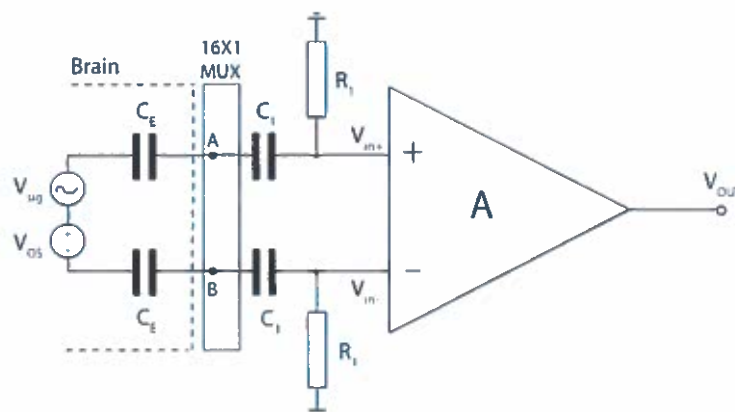
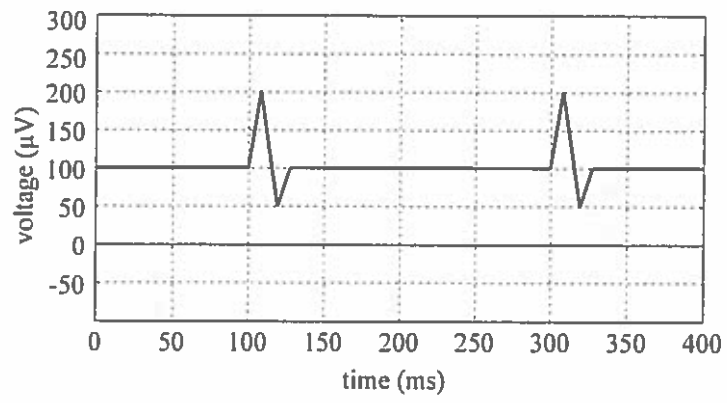

Figure 1.1
Figure 1.2
a) Figure 1.1 shows an AC coupled bio-potential amplifier connected to a set of electrodes for measuring neural activity from the brain. It is required that this amplifier can be connected to more than one set of electrodes, therefore two 16X1 analogue multiplexers are connected to points A and B shown in Figure 1.1 to interface to 16 pairs of electrodes. The electrodes used have a capacitance $C_E = 10\mu\text{F}$ and V_{sig} and V_{os} denote the measured bio-potential and common mode offset.
b) The Bio-potential amplifier in Figure 1.1 is used as part of a monitoring system to detect the action potential signal shown in Figure 1.2. between one pair of electrodes.
ii. Choose suitable gains and calculate resistor values to ensure that the action potential shown in Figure 1.1 utilises the maximum dynamic range of the measurement system. [4]